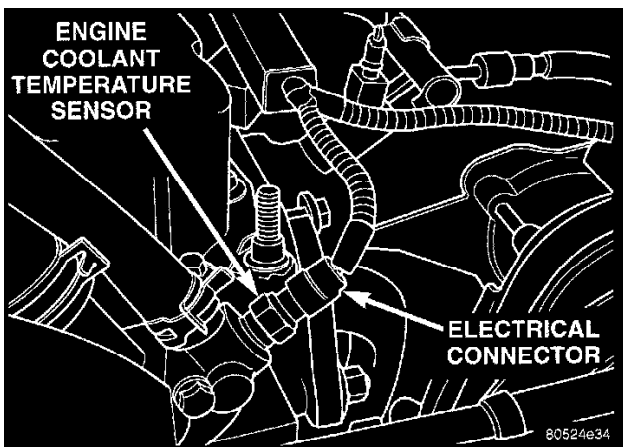

Fig. 29 Engine Coolant Temperature Sensor-Typical
1. Disconnect wire harness connector from coolant temperature sensor (**Fig. 29**).